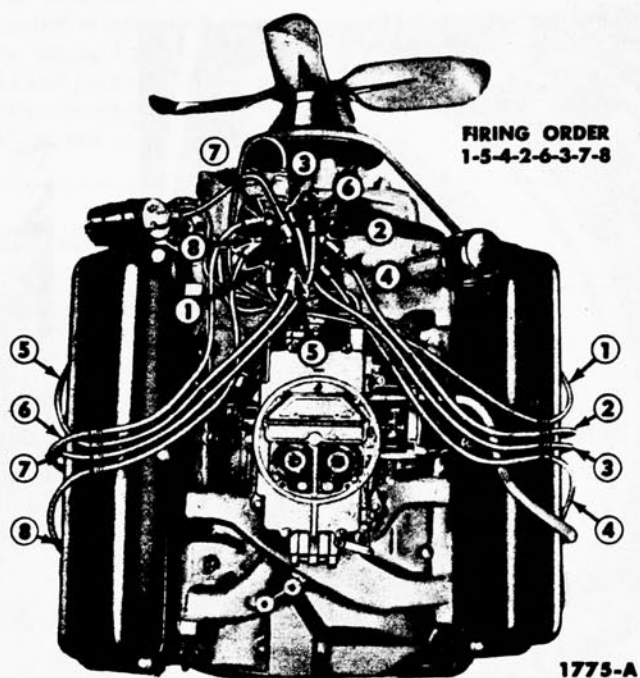

FIG. 8—Ignition Wiring Installation—Typical
The ignition wiring installation is shown in Fig. 8.
2. Remove the brackets from the old spark plug wire set and install them on the new set in the same relative position. Install the wires in the brackets on the valve rocker arm covers (Fig. 9), then connect the wires to the proper spark plugs. Install the coil high tension lead. **Be sure No. 7 spark plug wire is positioned in the brackets as indicated in Fig. 8.**